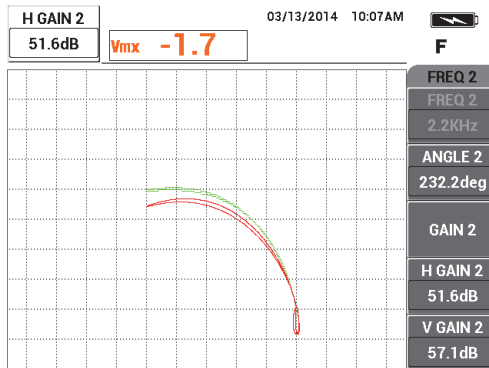

Figure 5-125 Adjusting the horizontal amplitude of the frequency 2 signal
- Press the GAIN key (**dB**) twice again, and then decrease the horizontal amplitude of the frequency 2 signal (red) until it extends exactly 5 divisions to the left of the null point (see Figure 5-125 on page 215).